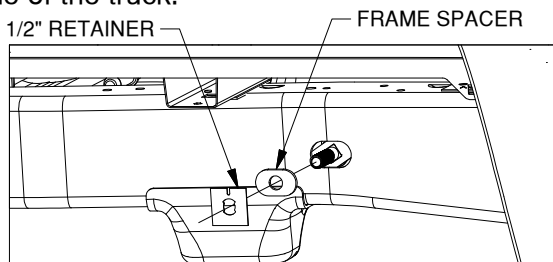

Figure C3: View looking into driver side wheel well.
2. **Install frame spacers.** Install a frame spacer into each hole over the carriage bolt. To prevent the carriage bolts from falling into the frame. Thread a 1/2" retainer onto each bolt until it is snug against the frame, see Figure C3. Repeat steps 1 & 2 on the other side of the truck.